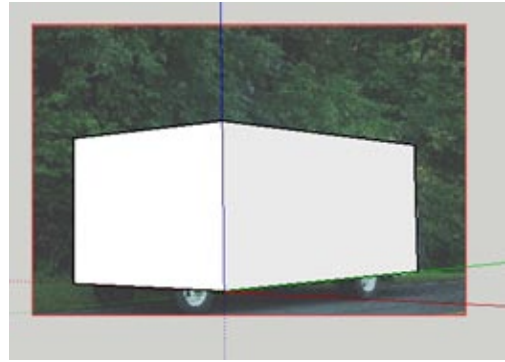

Figure 9-61
4. Trace the side of the truck, and push the face back to the edge of the truck in the photo (Figure 9-61). The resulting box will be too large, but you'll adjust it later.